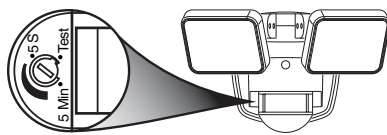

Figure 5
- Turn the control dial to the TEST position (see Figure 5). *Note:* When the control dial is set to the TEST position, the light fixture will operate during the day or night. The light will stay on for 8 seconds after all motion has stopped.